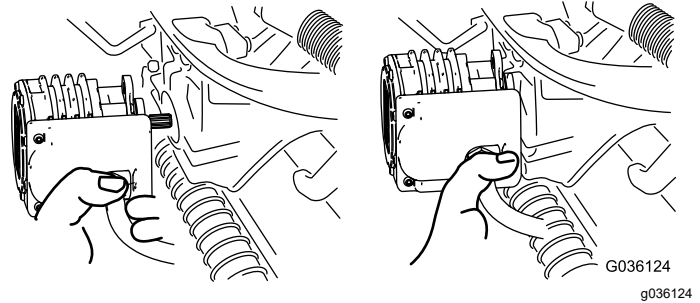

Figure 58
4. Move the motor to the storage location on the front of the suspension arm (Figure 58).